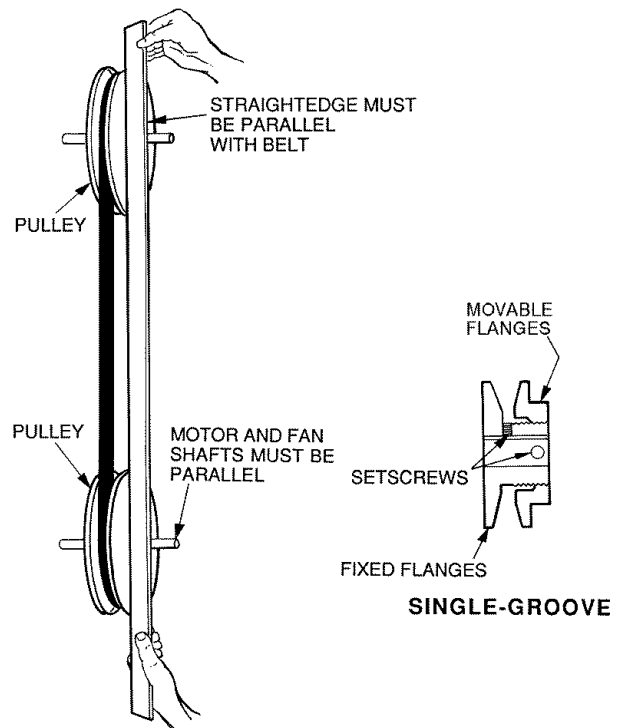

Fig. 39 — Evaporator-Fan Alignment and Adjustment
- Loosen movable-pulley flange setscrew (see Fig. 39).